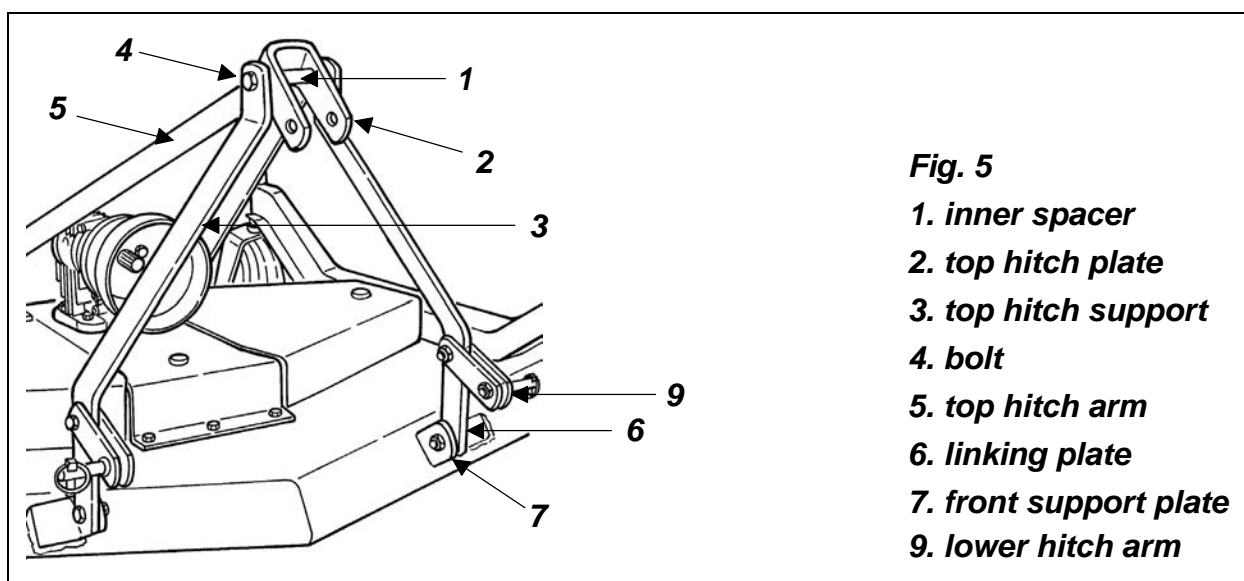
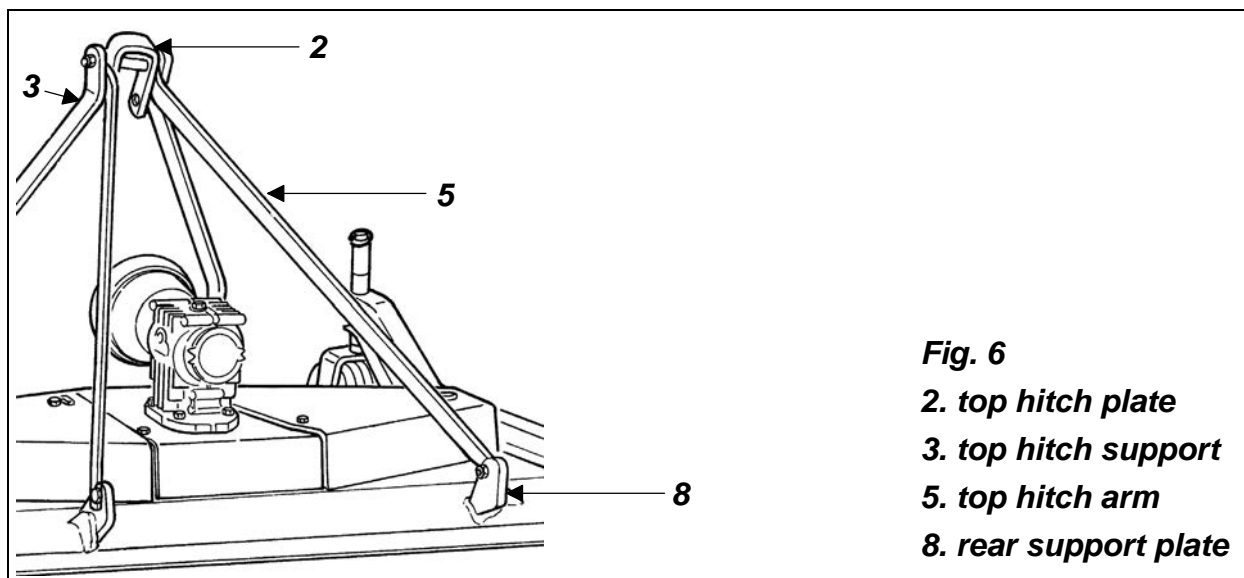

Fig. 5
Fig. 6
7. Bolt up the top hitch arms (see #5, fig. 5 & 6) to the **outside** of the rear support plates on the rear of the mower (see #8, fig. 6).
8. Bolt up the top hitch supports (see #3, fig. 5 & 6) to the **inside** of the linking plates (see #6, fig. 5) that are already bolted to the **outside** of the front support plates (see #7, fig. 5).
9. Bolt up the top hitch plate (see #2, fig. 5 & 6) with one bolt M16x140. It should be bolted as follows: Bolt, top hitch support, top hitch arm, top hitch plate, spacer, top hitch plate, top hitch arm, top hitch support, locknut. **Tighten the locknut down securely, the top hitch plate should be able to swivel 360°.**
10. Install the lower hitch arms (see #9, fig. 5) onto the top hitch supports. Tighten the bolts holding the lower hitch arms. Be sure they are able to swivel.